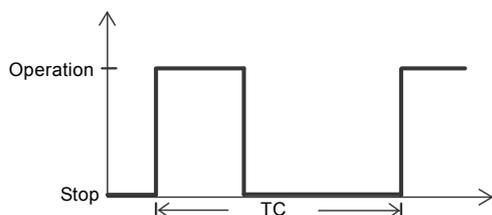

Fig. 17 S3 operation
S3 operation is a series of identical duty cycles (TC) each with a constant load for a period, followed by a rest period. Thermal equilibrium is not reached during the cycle. See fig. 17.